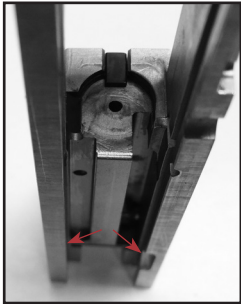

Figure 29-1
2. Using any quality firearm lubricant, 1 drop of lubricant on each side of the rear slide railways (See Figure 29-1).